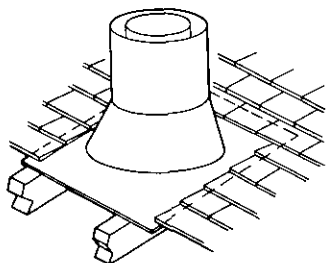

Figure 29
Step 7: Secure flashing by nailing along perimeter into roof using 8d nails. If shingled roof, slide upper end and sides of flashing under shingles (trim if necessary) (Figure 29), seal the top and both sides of the flashing to the roof with roof caulking. Cover nail heads with roof caulking.